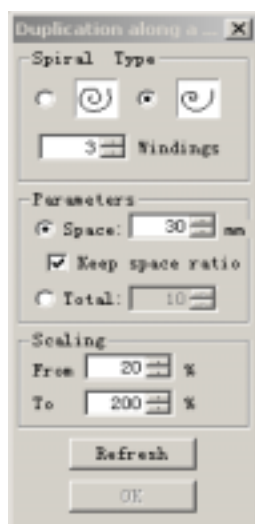

Fig. 6-45
3. A dialog is displayed. (Fig. 6-45)